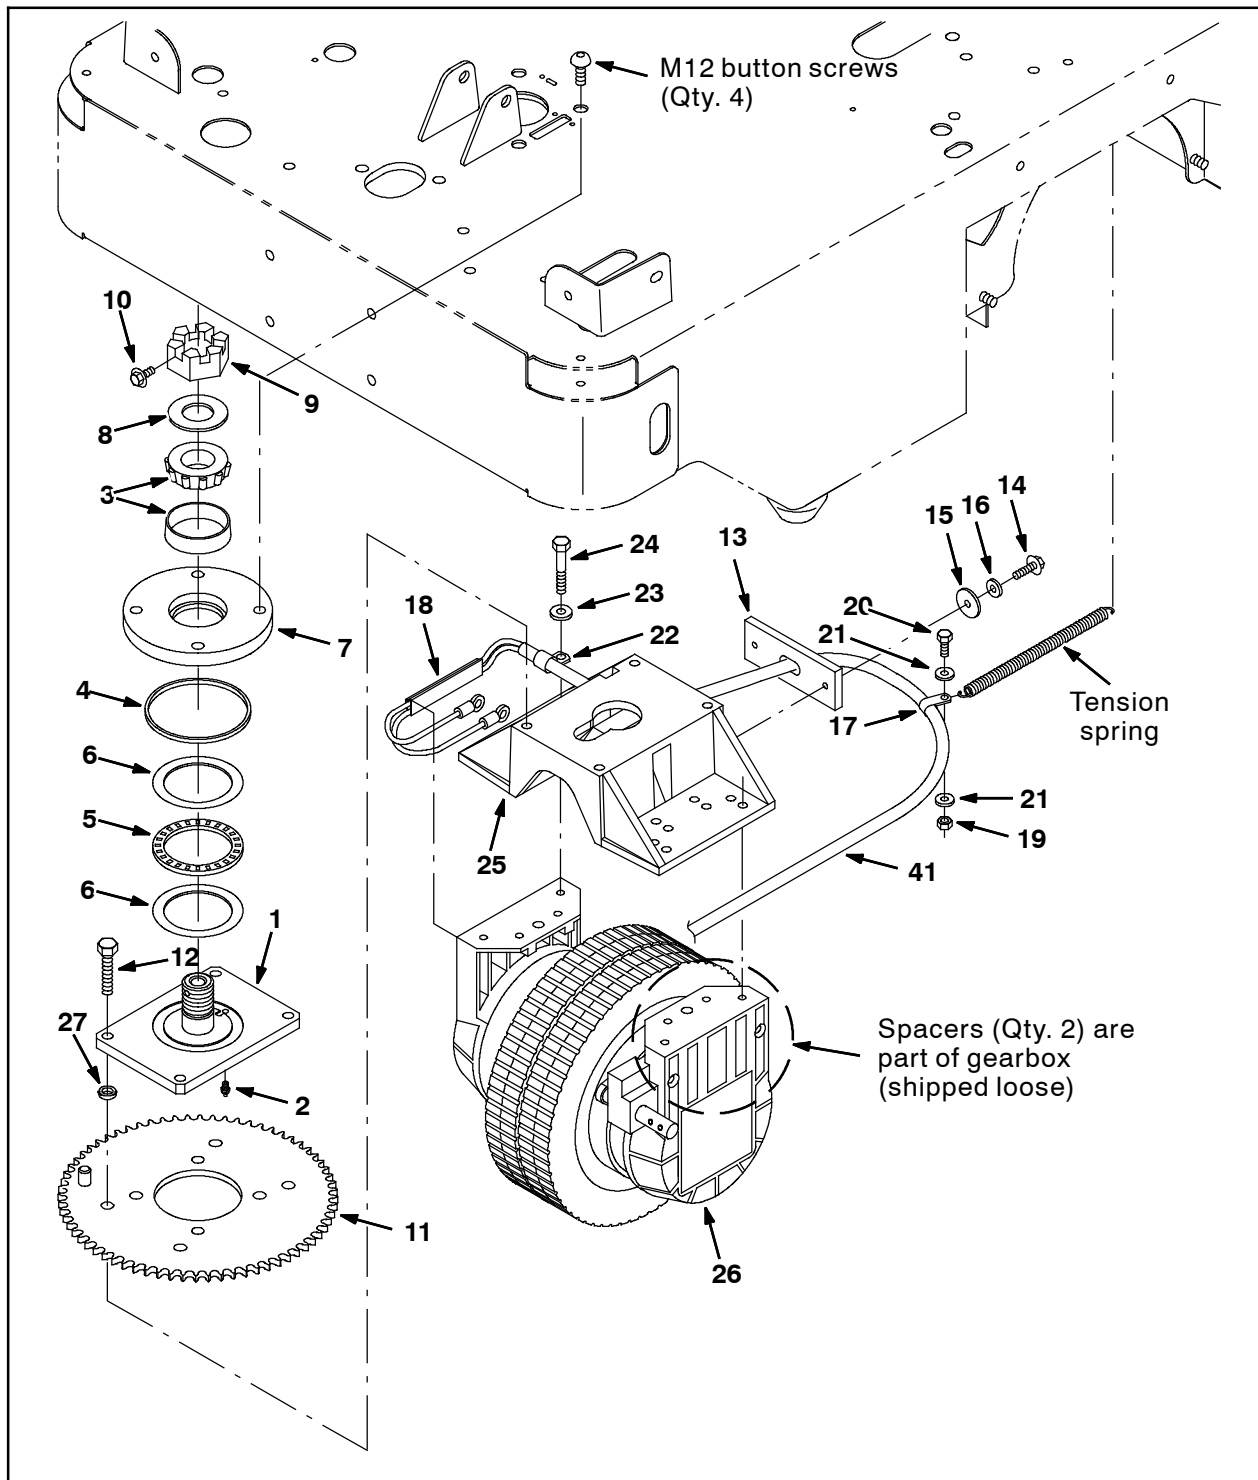

FIG. 4
NOTE: The new front wheel drive assembly will need to be installed with spacers included with the front wheel assembly. (Fig. 4)
12. Secure the new front drive wheel group in place with two of the M12 button screws (in opposite corners from the pilot screws). Torque to 70- 84 Nm (50- 60 ft lb). (Fig. 4)
14. Install the remaining two M12 button screws where the two pilots were previously located. Torque to 70- 84 Nm (50- 60 ft lb). (Fig. 4)
15. Use the cable clamp (17), one M6 hex screw (20), two flat washers (21), and one M6 hex nut to connect the tension spring to the cable to the motor wire harness (41). (Fig. 4)